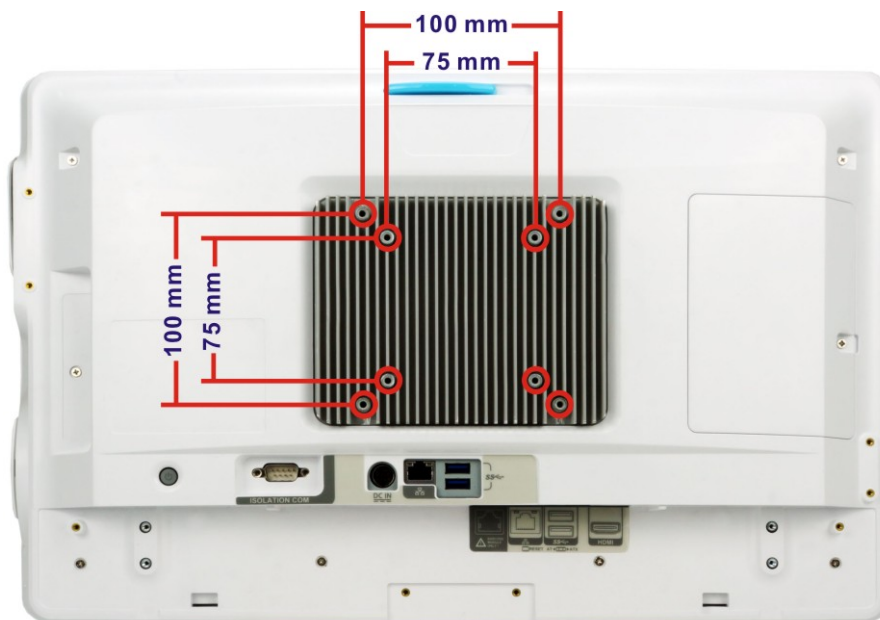

Figure 3-31: VESA 75 and VESA 100 Mounting Retention Screw Holes
Step 3: Align the retention screw holes on the mounting arm interface with those in the panel PC (**Figure 3-31**).
- Step 1:** Locate the VESA mounting screw holes on the rear of the BIS-W19C(F)-ULT4 (Figure 3-31). This is where the bracket will be attached.